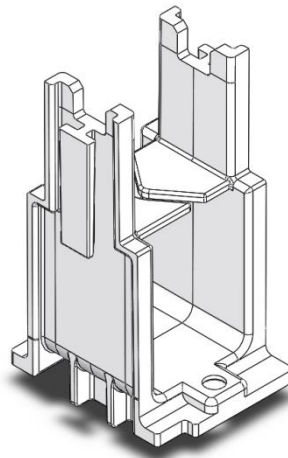

Fig. 9 Expansion Bracket
3.3.3. After attachment of the modules to the wall, insert the plastic expansion bracket (see Fig. 9)